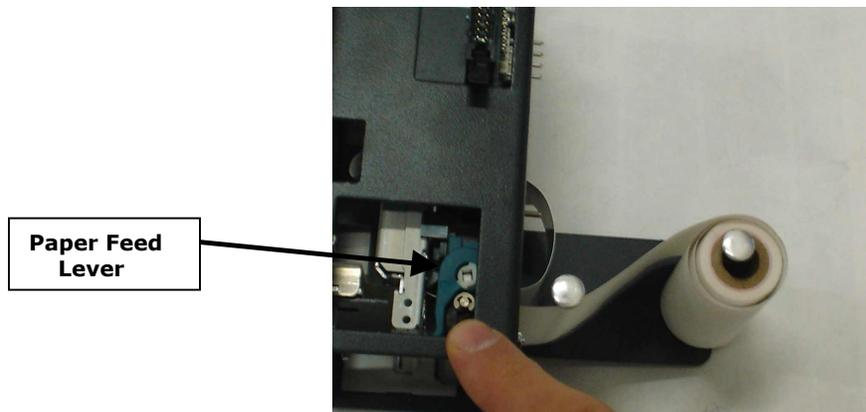

Figure P2: AC7074 Printer – Side View, with Paper
1. If there is paper remaining on the previous roll, it must be removed before proceeding. Move the “Paper Feed Lever” from the DOWN to the UP position (refer to Figure P2), and then pull out the remaining paper from the rear of the printer and discard the roll.
1. If there is paper remaining on the previous roll, it must be removed before proceeding. Move the "Paper Feed Lever" from the DOWN to the UP position (refer to Figure P2), and then pull out the remaining paper from the rear of the printer and discard the roll.